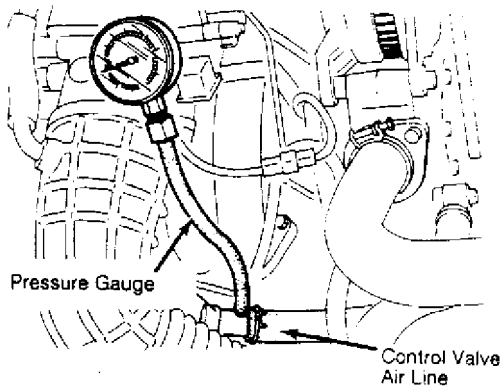

Fig. 2: Connecting Pressure Gauge to Air Pump
2) Stop engine and disconnect air line at air control valve. Connect hose to a pressure gauge. Connect tachometer to engine. See Fig. 2.